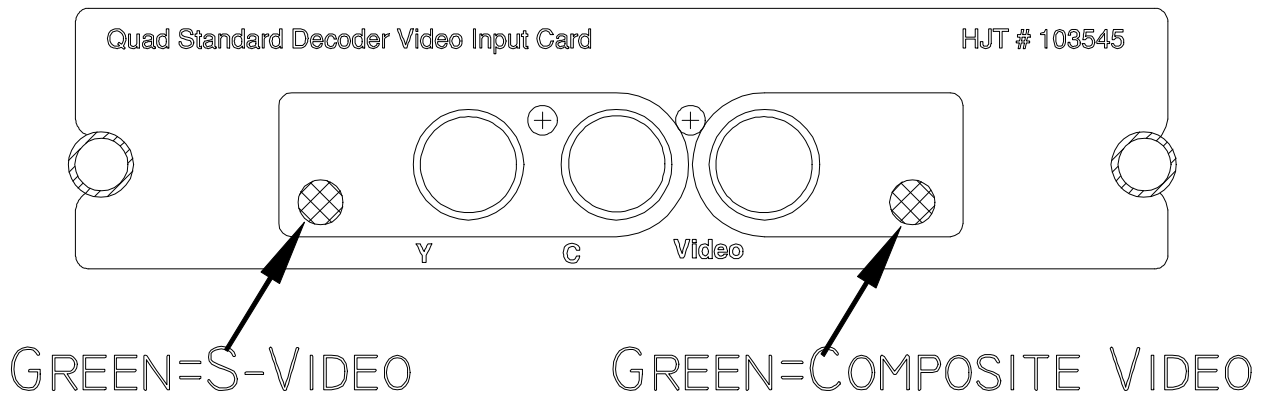

Figure 5-22. Quad Standard Decoder VIC.
- For **Quad Decoder VICs**, there are two distinct input connections (*Figure 5-22*). The input connector at the right, labeled Video is for Composite (C-VID). The two connectors at the left, labeled Y and C are for S-Vid. The selection of one of these inputs is made by editing the second number in the VIC column (see editing VICs, below) and using separate channels for their sources.
- 7.3. If using a Quad Standard Decoder VIC, select 1 or 2. When selecting #1, the LED on the left side for Y/C (S-Video, Figure 5-22) lights when this channel is active. When selecting #2, the LED on the right side, Composite (labeled "Video") of the VIC lights when this channel is active. Only one of these LEDs can light at any one time. **NOTE:** When activating a Quad Standard Decoder VIC, be sure to have a proper source connected to the inputs on the rear panel. The projector will not select an appropriate source without a proper input source.